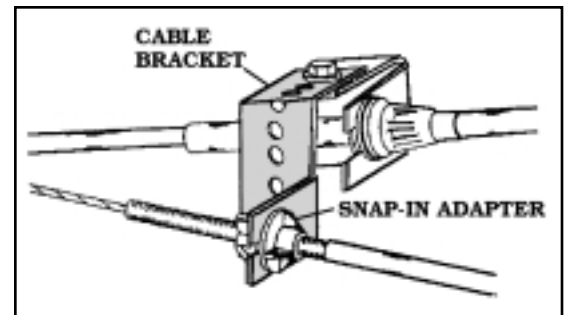
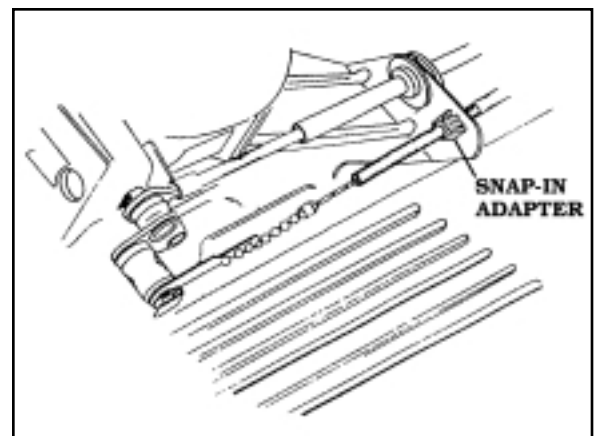

FIGURE 22
FIGURE 23
3. THE **SNAP-IN ADAPTER** SNAPS INTO THE SQUARE HOLE OF THE **CABLE BRACKET** **FIGURE 22** OR SNAPS INTO AN EXISTING SQUARE HOLE ON THE VEHICLE (COMMON ON **GM™** VEHICLES). **FIGURE 23**